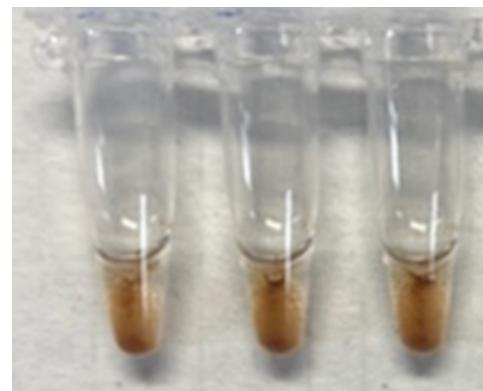

FIGURE 10
36. Remove tubes from 4°C incubation and quick spin to collect liquid. Beads may settle overnight (Figure 10). This will not impact results.